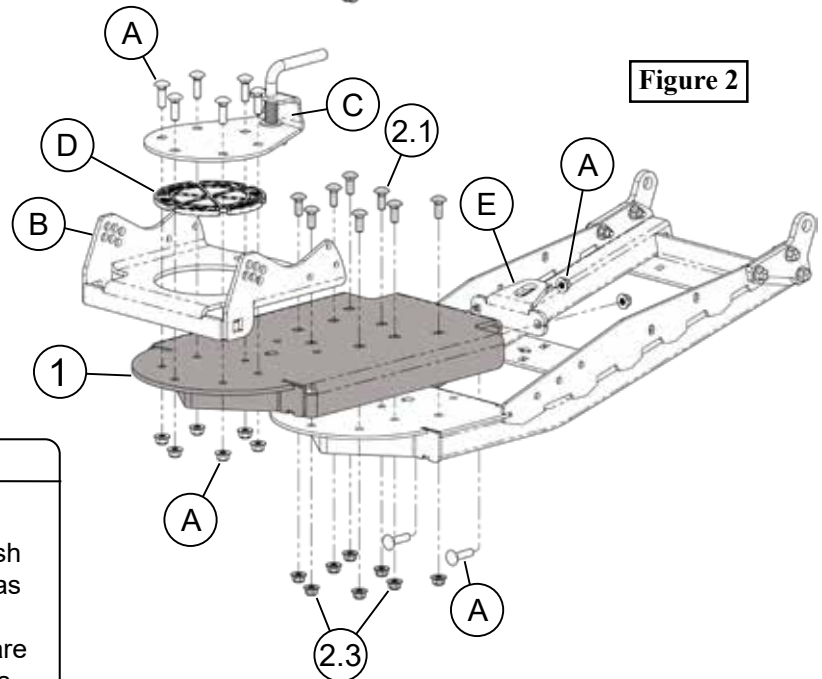

Figure 2
2. Reinstall pivot bushing (D), lift latch assembly (C), cradle (B), and cable hook bracket (E) using hardware (A) removed in step 1 onto UTV Track Extension (1) as shown in **Figure 2**.
3. Install UTV Track Extension (1) onto push tubes using bolts (2.1) and nuts (2.3) as shown in **Figure 2**.
3. Install the UPPER (A), MIDDLE (B) and LOWER (C) brackets to the side shield using the 1" carriage bolts and nuts. See **Figure 2** for bracket difference chart. Side Shield has a notch (D) that indicates the bottom. This notch allows clearance for the wear bar. See **Figure 3** for proper right and left install.
“Figure 2 Bracket Difference Chart”